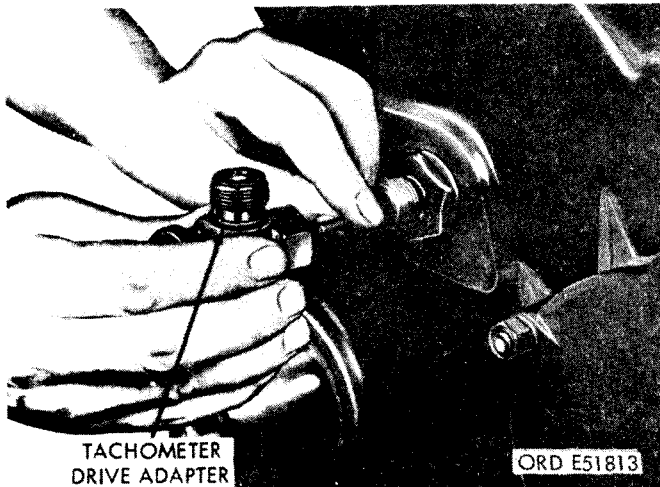

Figure 2-163. Removing tachometer drive adapter.
(1) From inside the cab, remove the two screws securing the dimmer switch (22, fig. 2-163) to the underside of the toeboard.
(2) Disconnect the three bayonet type connectors on the switch cables, and remove the switch from the vehicle.
*a. Removal (fig. 2-163)*
- (1) Remove the tachometer drive adapter and drive shaft from the tachometer takeoff adapter.
- (2) Remove the tachometer takeoff adapter and the adapter gasket.
*b. Installation (fig. 2-163).*
- (1) Position the gasket and install the takeoff adapter in place.
- (2) Install the drive adapter and shaft to the takeoff adapter.